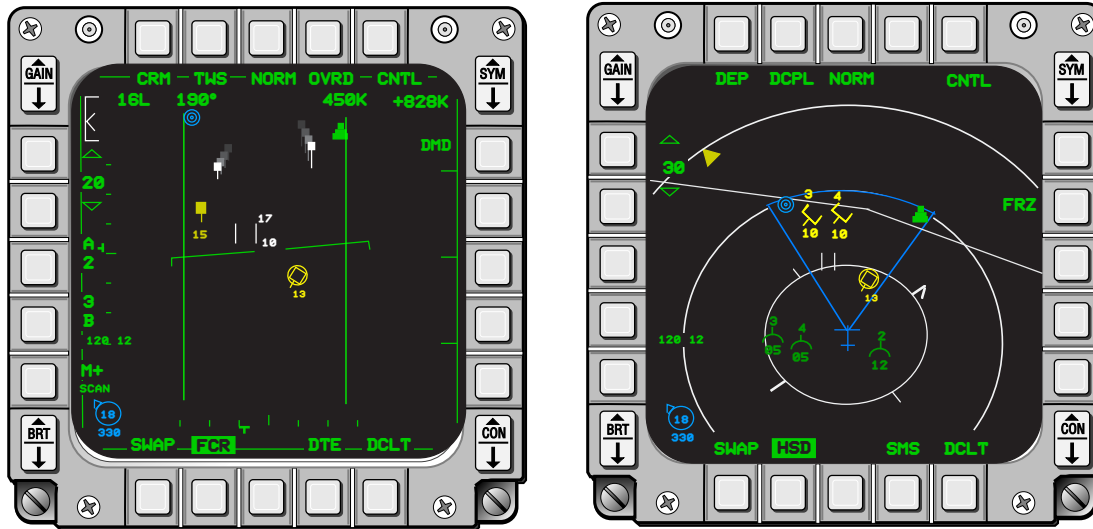

Figure 1-67 Data Link Symbology
**Air-to-Air Intraflight Data Link Operations.** The IDM provides three air-to-air intraflight data link modes: Demand (DMD), Continuous (CONT), and Assign (ASGN). The currently selected mode is displayed adjacent to OSB 6 on the FCR MFD format. The pilot may select a different mode by alternately depressing and releasing OSB 6 until the desired mode is selected. The sequence of OSB 6 is DMD-CONT-ASGN-DMD. The pilot uses DMD and CONT modes to see his flight member's locations (friendlies) and the location of their bugged targets (unknown targets) on his HSD display (See Figure 1-67). DMD mode provides one data link round for each activation of COMM outboard and CONT provides for a continuous non-ending series of data link rounds after an initial activation. ASGN mode allows the pilot to assign a target which he has bugged on his FCR display to another flight member participating in the data link net.